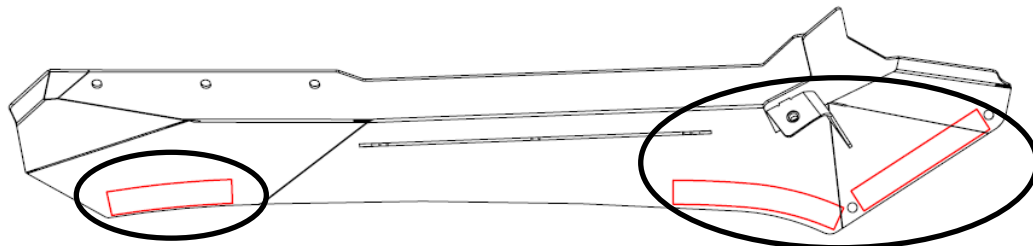

Figure 14
3. Install three (3) 1" neoprene rubber strips to the inside of both arms. (Figure 14)